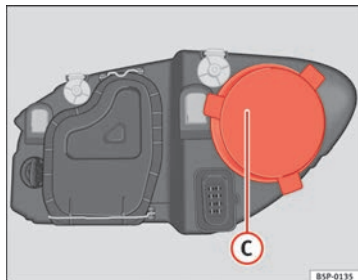

Fig. 192 Main beam headlights
- Remove the cover ⇒ Fig. 192 C by pulling on this.